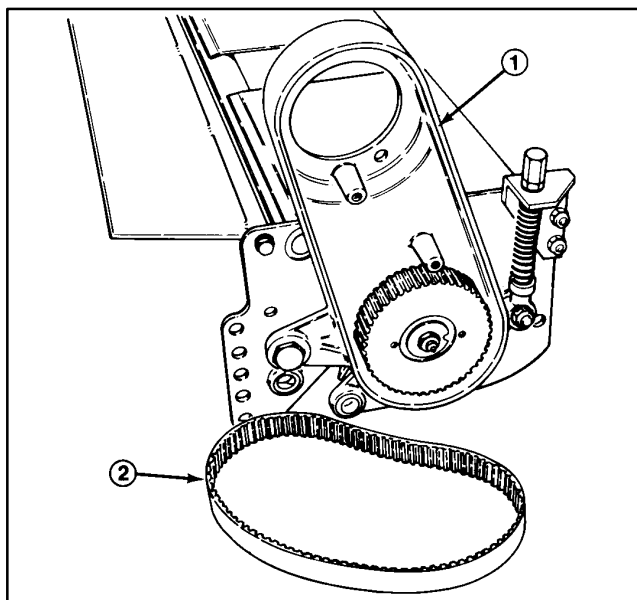

Figure 21
4. Disassemble the cone nut from the shoulder bolt securing the bearing housing to the side plate, remove the belleville washer and bolt and slide the bearing housing off the reel shaft (Fig. 21).
10. Ensure the slot in the pulley washer is aligned with the roll pin in the pulley and install the washer, toothed washer and reel capscrew (Fig. 21). Apply a medium strength thread locking compound to the reel capscrew during assembly. Torque the capscrew to 45 – 55 ft.-lbs.